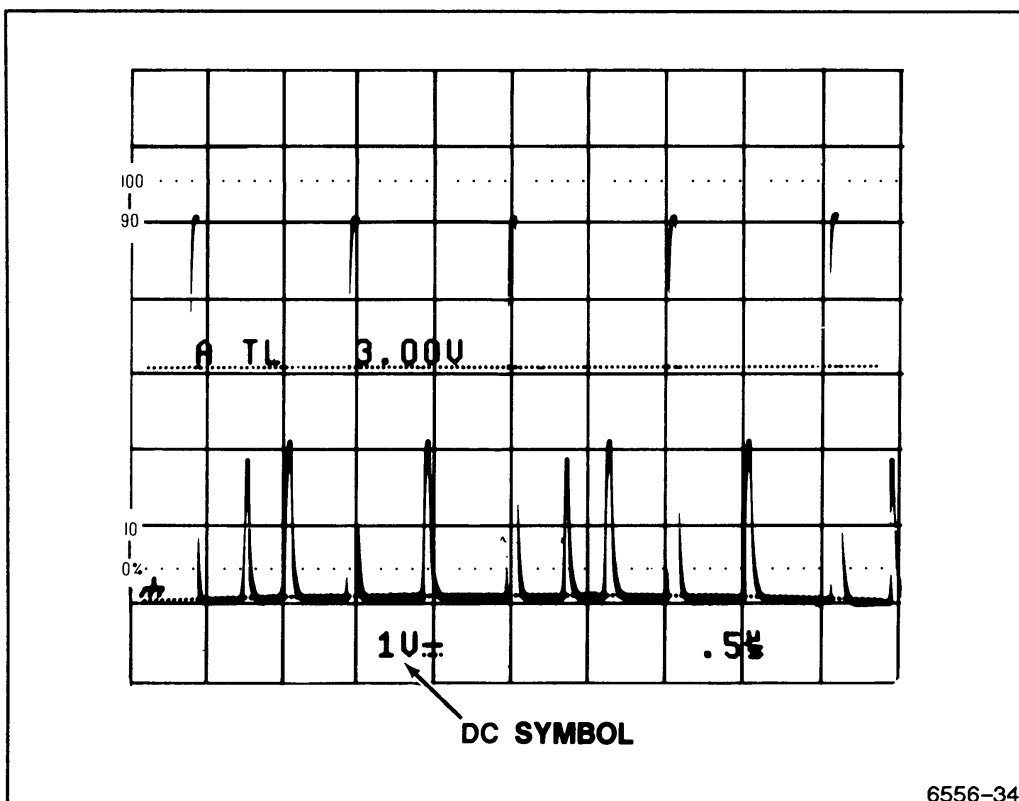

Figure 5-8. Setting a specific trigger level.
- a. The signal to be examined is a mix of two different signal levels (see Figure 5-8).
Set the VOLTS/DIV control so that the displayed signal will have a good viewing amplitude. For the assumed signal shown in Figure 5-8, a setting of 1 V/div will produce a four to five division display amplitude. Position the ground cursor (using the VERTICAL POSITION control) at about three graticule divisions below the center graticule line. (For negative-going signals, two divisions above the center graticule would about center the display; and for bipolar signals, centering the ground trace is appropriate.)